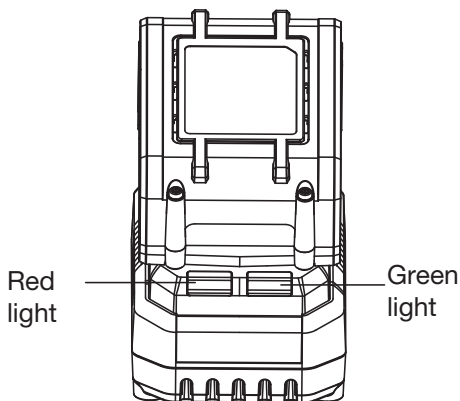

Figure 5
3. CHARGING THE BATTERY PACK (NOT SUPPLIED) (SEE FIG. 5)